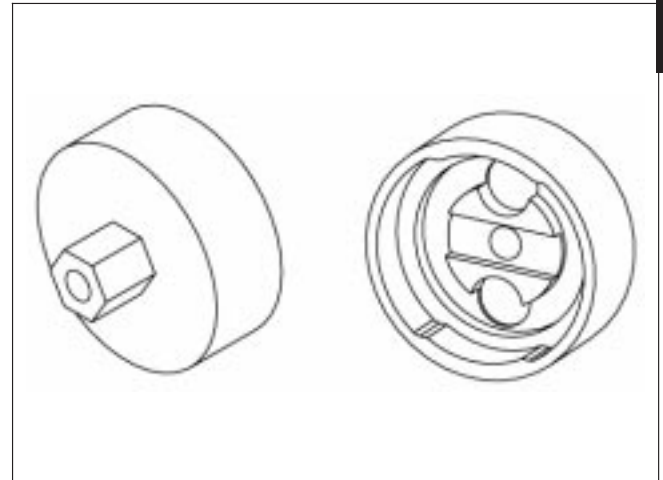

Figure 1-14.Clutch Tool, P/N 180918.
- Clutch Tool, P/N 147337 (Figure 1- 13) or P/N 180918 (Figure 1-14).